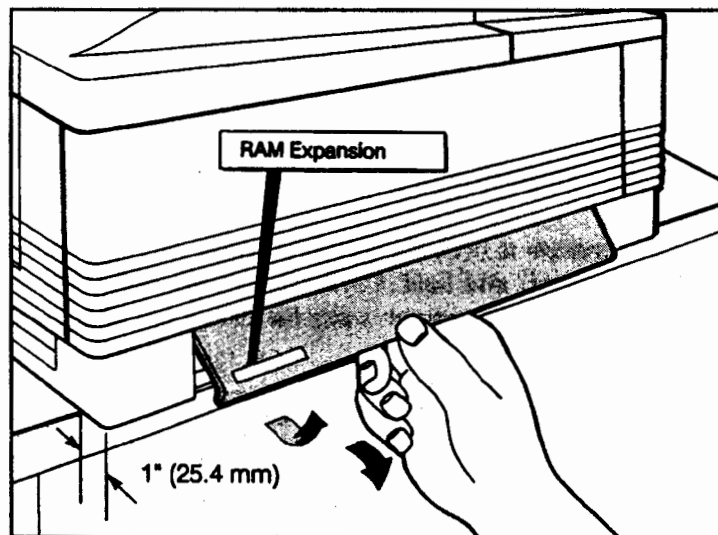

Figure C-2. Removing RAM Expansion Access Cover
2. In order to remove the plastic RAM Expansion access cover on the printer's left side base, position the printer so that its left side overhangs a supporting surface by approximately one inch (see Figure C-2).
3. Remove the plastic RAM Expansion access cover by inserting the tip of your finger in the slot under the center of the lower edge, then pulling the plate outward and downward (see Figure C-2).